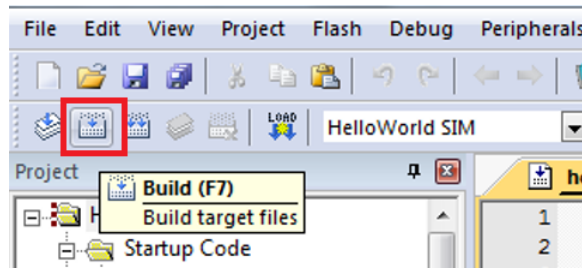

Figure 1.5: Keil IDE: Build Button
2. Build the HelloWorld SIM Target by pressing the Build button or F7 (see Figure 1.5).
2. Build the HelloWorld RAM Target by pressing the Build button or F7 (see Figure 1.5).